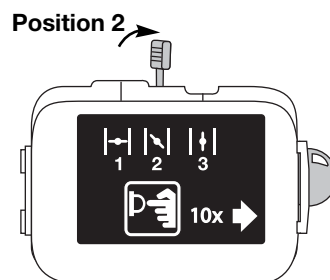

Fig. 9
7. Place the choke lever in **Position 2** (Fig. 9).